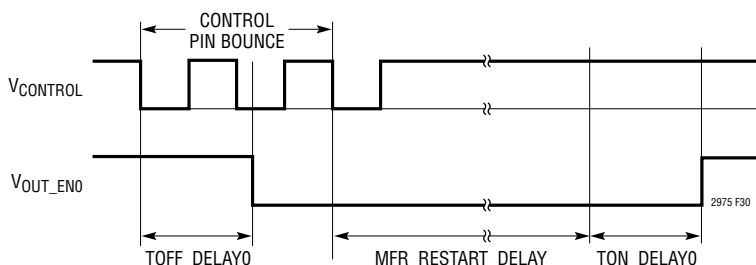
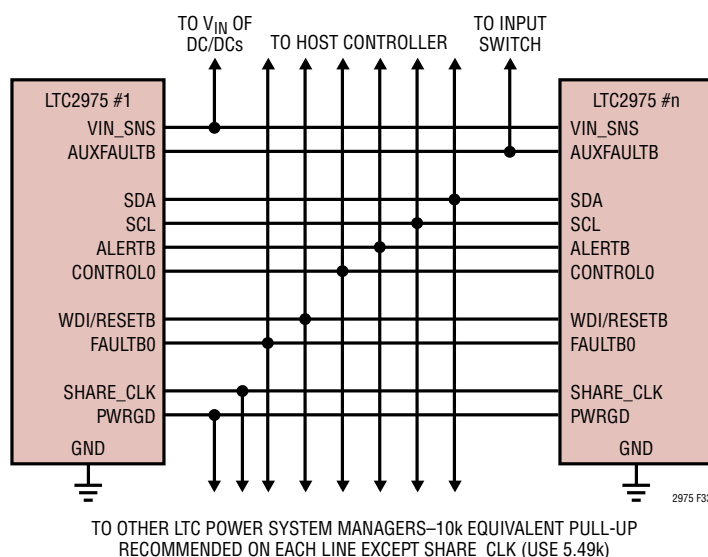

Figure 30. Off Sequence with Automatic Restart
Figure 33. Typical Connections Between Multiple LTC Power System Managers
An automatic restart sequence can be initiated by driving the CONTROL pin to the off state for >10μs and then releasing it. The automatic restart disables all V_{OUT_EN} pins that are mapped to a particular CONTROL pin for a time period = MFR_RESTART_DELAY and then starts all DC/DC Converters according to their respective TON_DELAYS. (see Figure 30). V_{OUT_EN} pins are mapped to one of the CONTROL pins by the MFR_CONFIG_LTC2975 command. This feature allows a host that is about to reset to restart the power in a controlled manner after it has recovered.
Figure 33 shows how to interconnect the pins in a typical multi-LTC2975 array.
- The `FAULTB` lines can be connected together to create fault dependencies. Figure 33 shows a configuration where a fault on any `FAULTB` will pull all others low. This is useful for arrays where it is desired to abort a startup sequence in the event any channel does not come up (see Figure 30).
- `PWRGD` reflects the status of the outputs that are mapped to it by the `MFR_PWRGD_EN` command. Figure 33 shows all the `PWRGD` pins connected together, but any combination may be used.